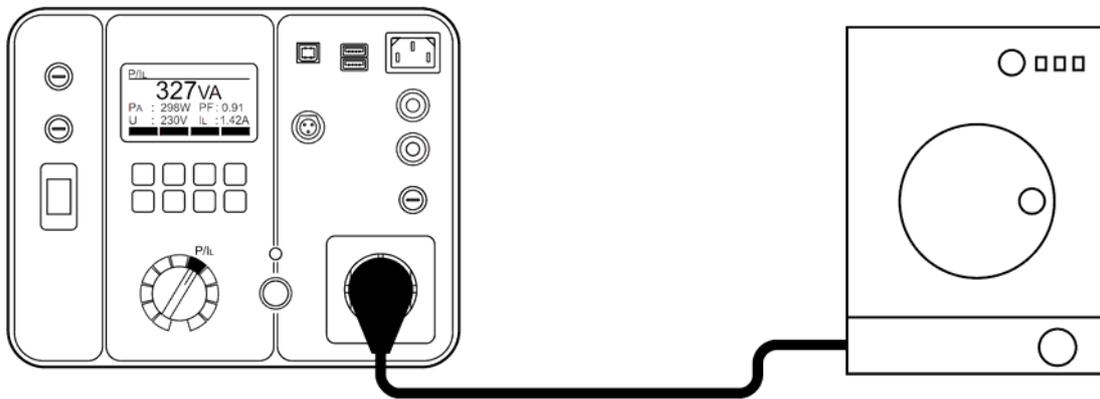

Figure 25: Functional test connection
- Connect the appliance according to the figure 25.